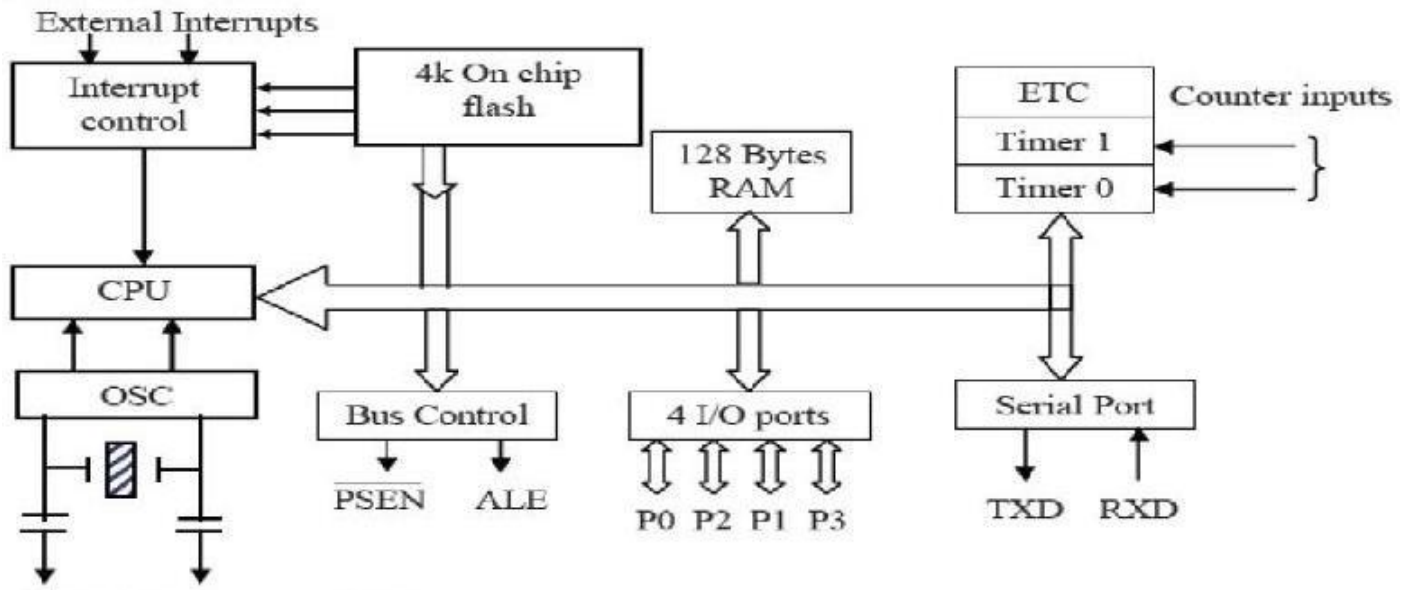

Fig.3. Block Diagram of 8051 Microcontroller
- ✓ The blockdiagramof8051microcontrollerisshownin Fig3.